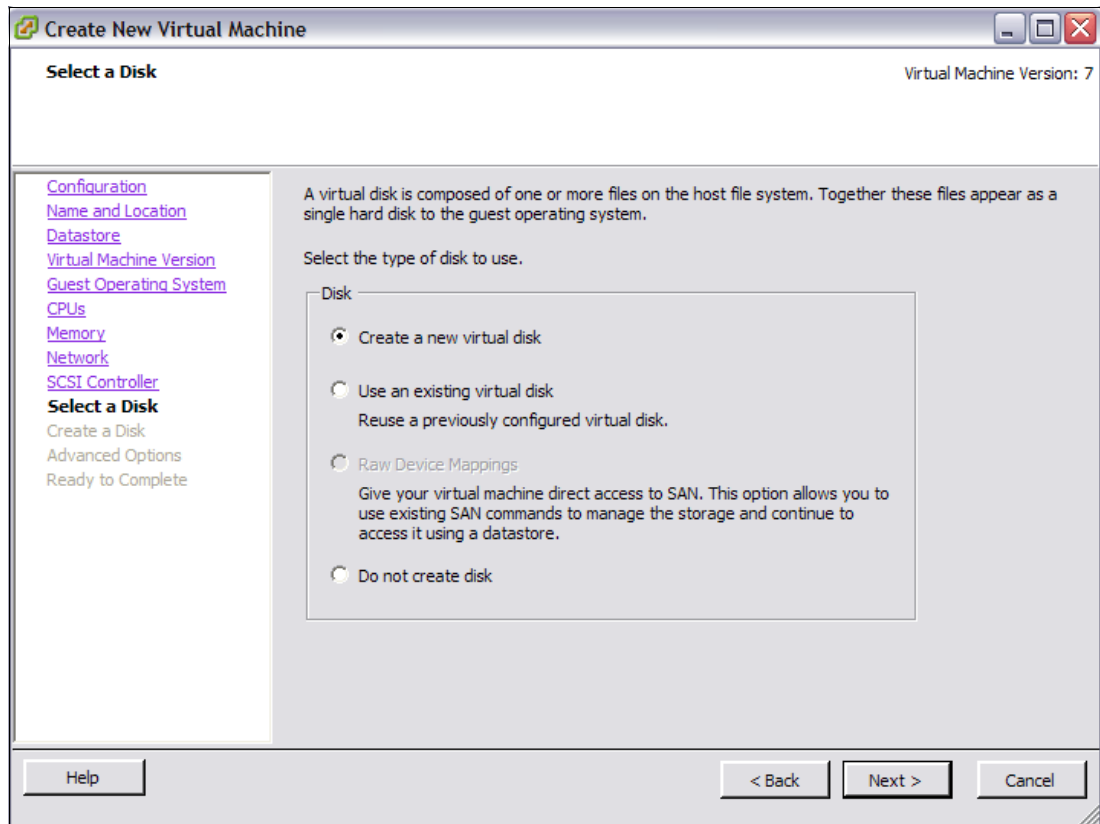

Figure 22-82 Select a disk
12. In the Select a Disk window (Figure 22-82 on page 714), select: